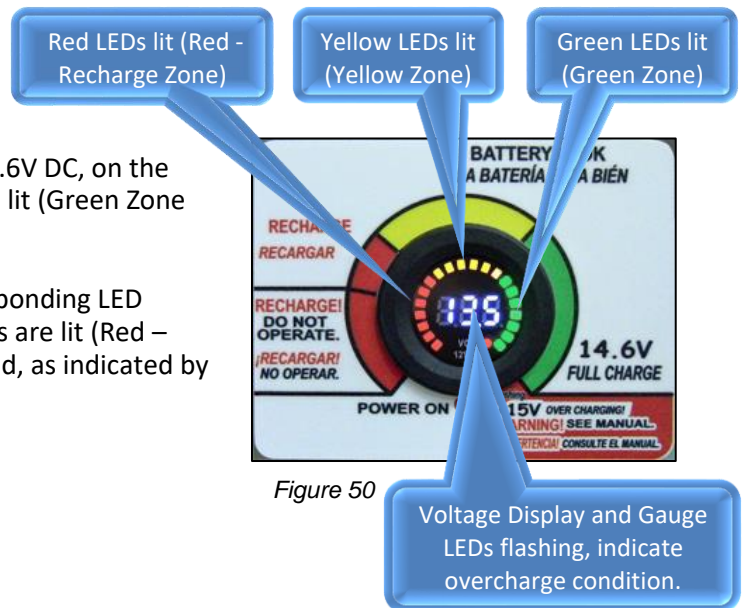

Figure 50
6. The Lifter normal operating range is 12V DC to 14.6V DC, on the Digital Voltmeter, with the green and yellow LEDs lit (Green Zone and Yellow Zone) (Figure 50).
7. If the voltage on the Digital Voltmeter and corresponding LED (Yellow Zone) dips below 12V DC and the red LEDs are lit (Red – Recharge Zone), the battery needs to be recharged, as indicated by the label (Figure 50).
8. The Voltage Display and all the Gauge LEDs on the Digital Voltmeter will flash if the voltage is more than 15V DC, indicating an overcharge condition (Figure 50).